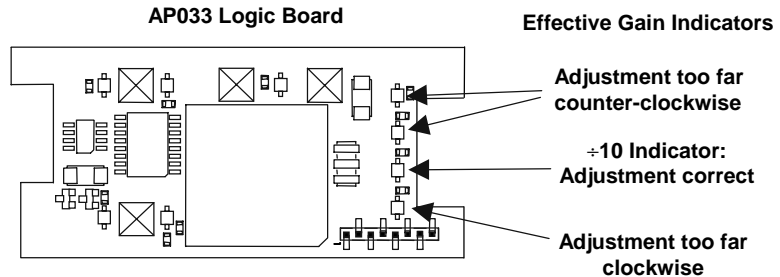

Figure 11. ±10 Effective Gain Indicator
6. In Cal Mode, the **EFFECTIVE GAIN** indicators serve as an adjustment indicator. The **EFFECTIVE GAIN** indicators are located on the Logic Board (Figure 11). It may be necessary to hold the boards in your hands to see the indicators while making the adjustment.
- Using a low capacitance screwdriver, adjust **Fine DC Balance** (R304) until the **±10 EFFECTIVE GAIN** indicator lights (Figure 11).